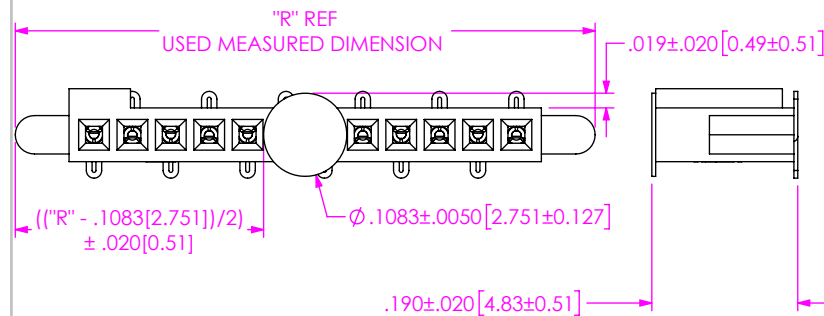

FIG 6
-K: POLYIMIDE FILM (SEE FIG 6, SHT 2) (USE K-500-300)